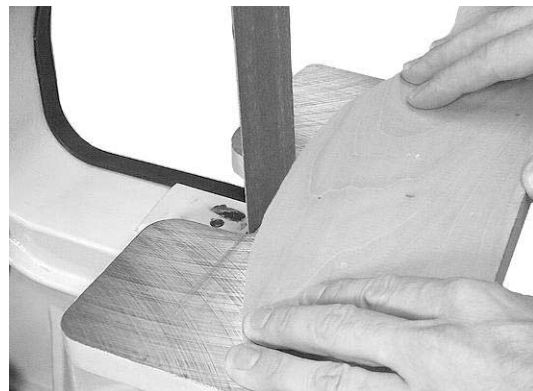

Figure 20
- Sanding outside curves on the belt unit with the platen removed. See Figure 20.